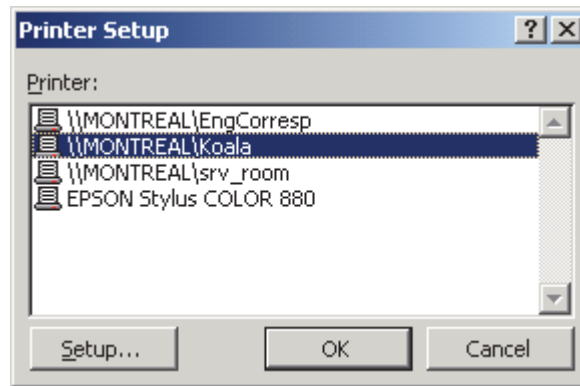

Figure 3-14. Printers Selection Form
- Click the check box next to the printer graphic icon to print the report. Enter the printer name in the Printer field or double-click inside the Printer field and choose the printer name from the names of the configured printers (Figure 3-14). If accessing the Report Builder from a remote PC, make sure that the printer is also configured on the report server.